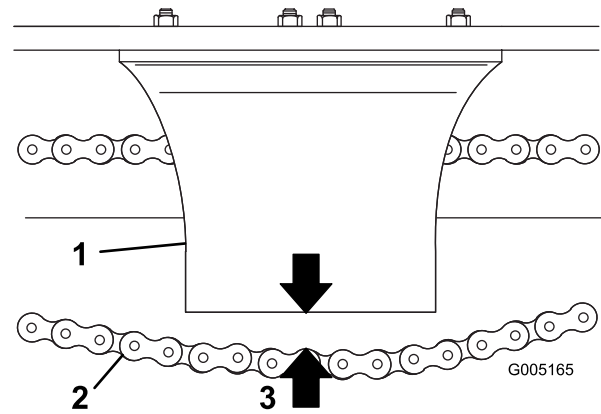

Figure 30
4. Measure the distance between the bottom of the chain guard and the lower chain span (Figure 30). If the slack in the chain is not within 1-1/2 to 2-1/2 inches (3.8 to 6.35 cm), adjust the tension (refer to Adjusting the Tension).
- guard and the lower chain span is within 1-1/2 to 2-1/2 inches (3.8 to 6.35 cm) (Figure 30).